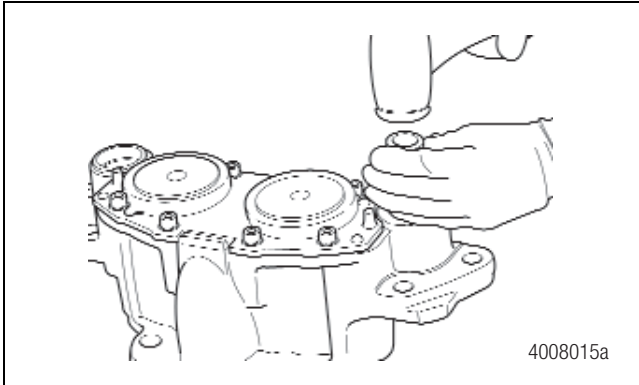
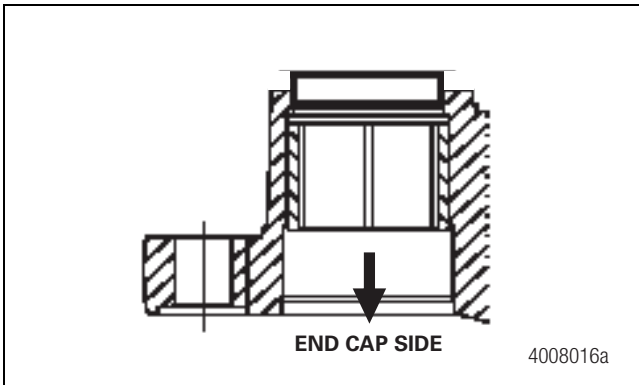

Figure 6.35
Figure 6.36
- Use Meritor tool MST1000 and a dead blow hammer to drive out the bushing from the housing. Figure 6.35. Refer to Section 12 for tool details. The bushing must be pushed out in the direction of the end cap side of the bore. Figure 6.36.